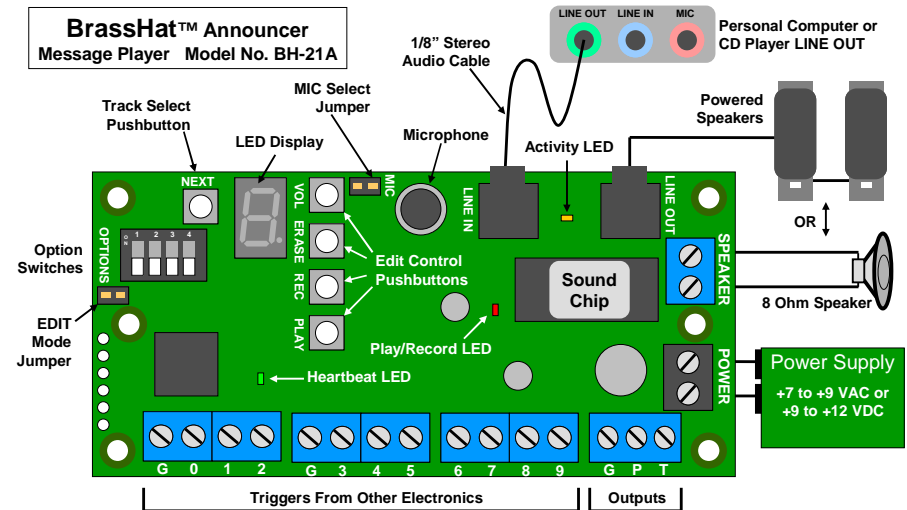

Figure 1: Circuit Board & Wiring Diagram
Figure 1 shows how to wire your **BrassHat™** Annunciator, along with key features on the circuit board.
1. Connect two wires from your power supply to the Annunciator **gray** power terminals as shown in **Figure 1**. Polarity does not matter. The power supply must be 7 to 9 Volts AC or 9 to 12 Volts DC, with 150 mA capacity. Radio Shack sells an AC adaptor (#273-314) that works well.
- If you want to record from a personal computer, CD player or other audio source, you can connect that source's LINE OUT to the Announcer's LINE IN jack as shown in **Figure 1**. Male-to-male 1/8-inch stereo audio cables are available from Radio Shack (#42-890) and other retailers.
- You can wire other electronics to trigger Announcer as in **Figure 1**. Grounding a Trigger Input is the same as pressing a faceplate pushbutton, allowing other electronics to control the Announcer. For more information, visit www.bouldercreekengineering.com/manuals.php.
- Announcer Output T is grounded when a Trigger Input is detected. Output P is grounded during playback. You can connect Outputs to other electronics as in **Figure 1**. For more information, visit www.bouldercreekengineering.com/manuals.php.
Remove the EDIT Mode Jumper to enter Edit Mode. See **Figure 1**. To avoid misplacing the jumper, reconnect it over just one of the gold pins.
For recording from the built-in Microphone, remove the MIC Select Jumper. See Figure 1. Reconnect it over just one of the gold pins for safe keeping.
To record from electronic sound sources (such as a PC, CD player or tape deck) through the Announcer’s LINE IN jack, connect the two gold MIC pins with the MIC Select Jumper. See Figure 1.
To enter Run Mode, connect the two gold pins with the EDIT Mode Jumper. See **Figure 1**.
Setting Option Switches on or off (see **Figure 1**) will change Run Mode Options as defined below.